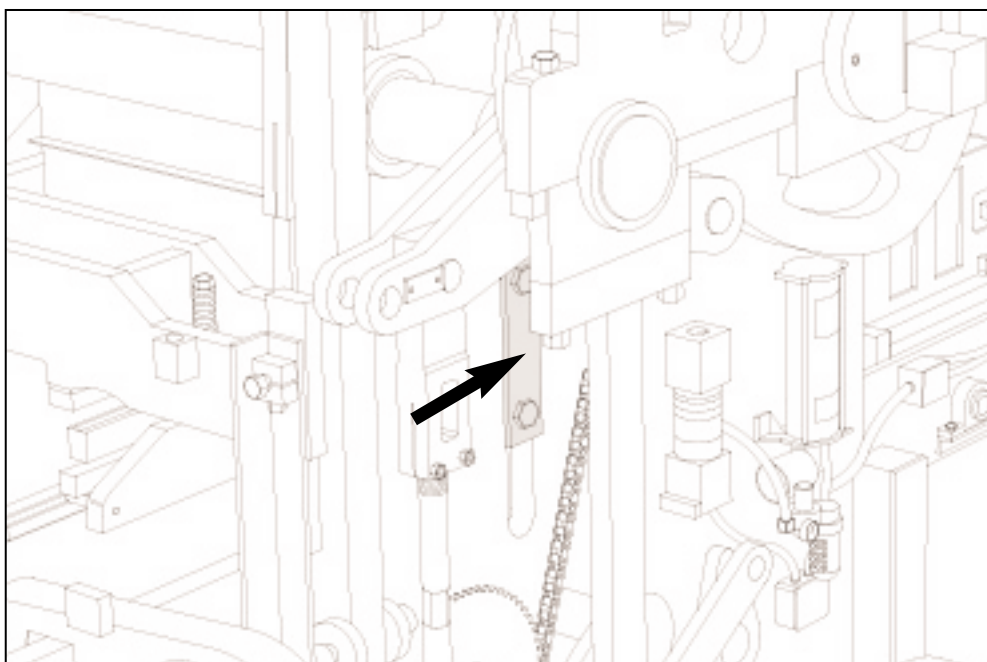

Figure 18.24 LOOSEN "T" CLAMPS ON BOTH SIDES.
- a. Loosen the "T" clamps on each side of machine that secure machine side plate to mold throat plate. (Figure 18.24)